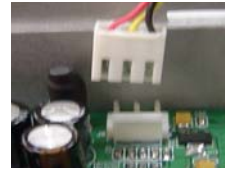

Fig.12
3. The connection of the operation pedal cable is shown in figure 12.